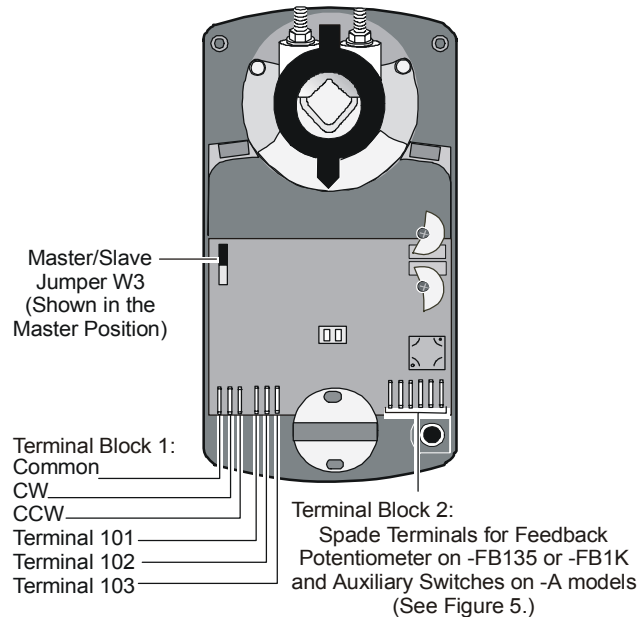
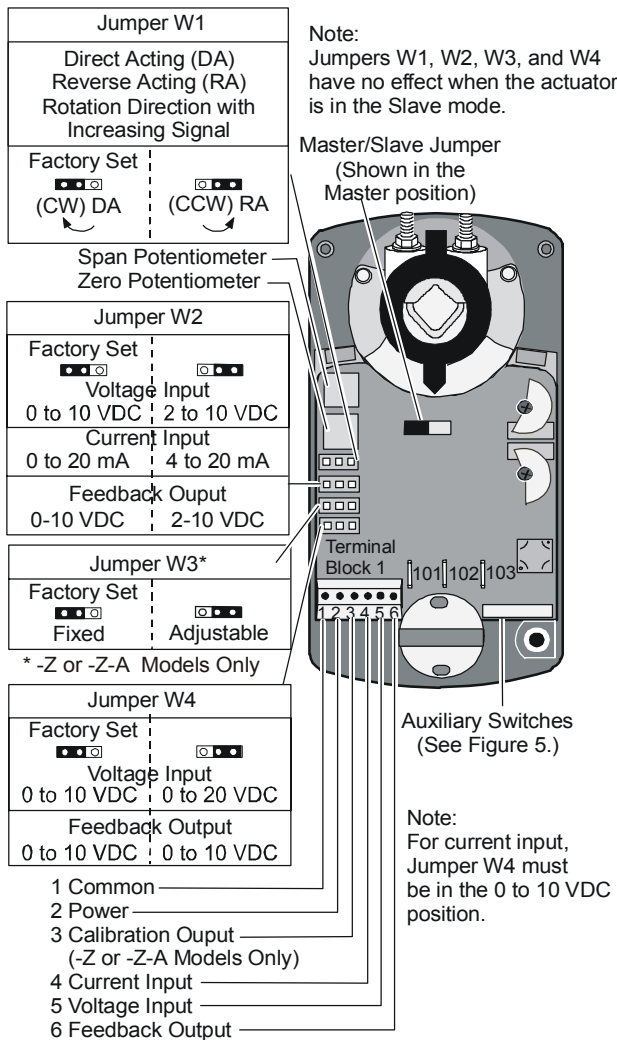

Figure 7: Settings on On/Off and Floating (D24-210 and D24-280) Models
Figure 8: Settings on Proportional (DM24) Models
The Master/Slave Jumper is factory set in the master position. Determine the method for mounting the two actuators in tandem: front-to-back (Figure 7 shows the front view) or back-to-back and proceed as follows:
2. Connect Terminal 101, Terminal 102, and Terminal 103 from the master actuator to the corresponding terminals on the slave actuator. (See Figure 7 for D24 models and Figure 8 for DM24 models.)
- For **D24-210 and -280 models**, connect the input control signal to the common, CW, and CCW terminals on both the master and slave actuators. (See Figure 7).
Note: Set the master actuator jumpers on the **DM24-140, -210, and -280 models** according to the action and signal range desired before proceeding. (Refer to Figure 8 and the *Setup and Adjustments, Calibration* section.)
2. Move Jumper W1 from the factory-set DA position to the RA position. (See Figure 8.)
Proportional (DM24-140, -210, and -280) models come factory set with the Master/Slave Jumper in the master position. **Proportional (DM24) and resistive (DRM24) models** come factory set with Jumper W1 in the DA position. **Proportional models** have additional jumpers factory set as follows: Jumper W2 in the 0 to 10 VDC or 0 to 20 mA position, and Jumper W4 in the 0 to 10 VDC position. (See Figure 8.)